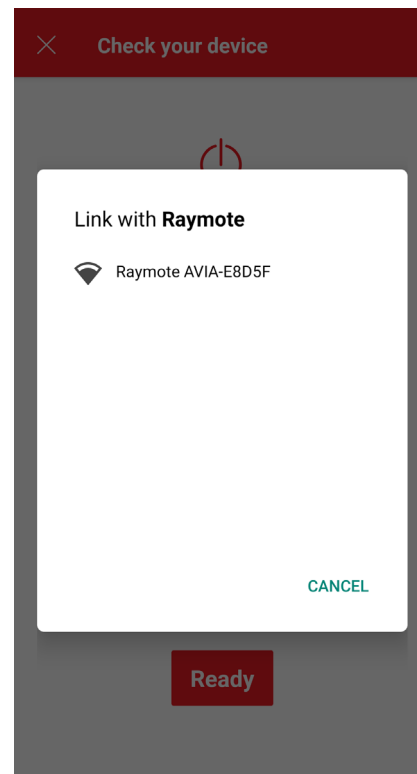

Figure 83. Link with Raymote
2. Depending on your configuration, one or more devices will appear on the app. See **Figure 83**. Select the HOTSPOT identifier that matches the unit's display as shown in **Figure 83**.